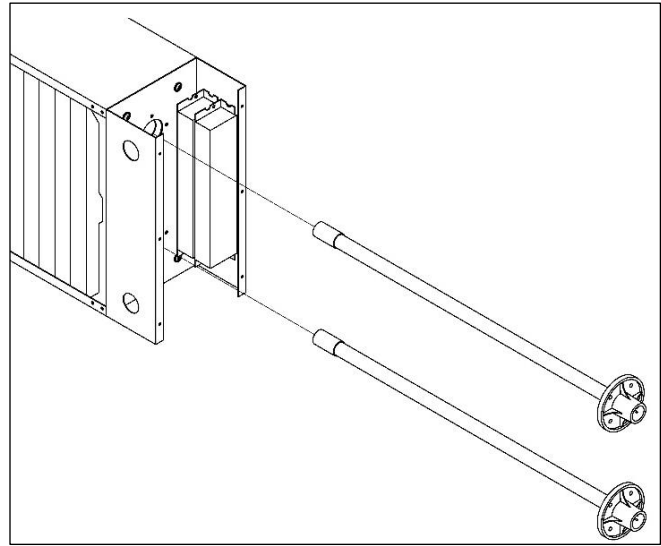

Figure 19
7.) Remove lamp by alternating a quarter turn clockwise and a quarter turn counterclockwise as it is pulled out. This will prevent the lamp from becoming bound up in the catalyst media. See Figure 19.
9.) Replace lamp by alternating a quarter turn clockwise and a quarter turn counterclockwise as it is pushed in. This will prevent the lamp from becoming bound up in the catalyst media. See Figure 19.